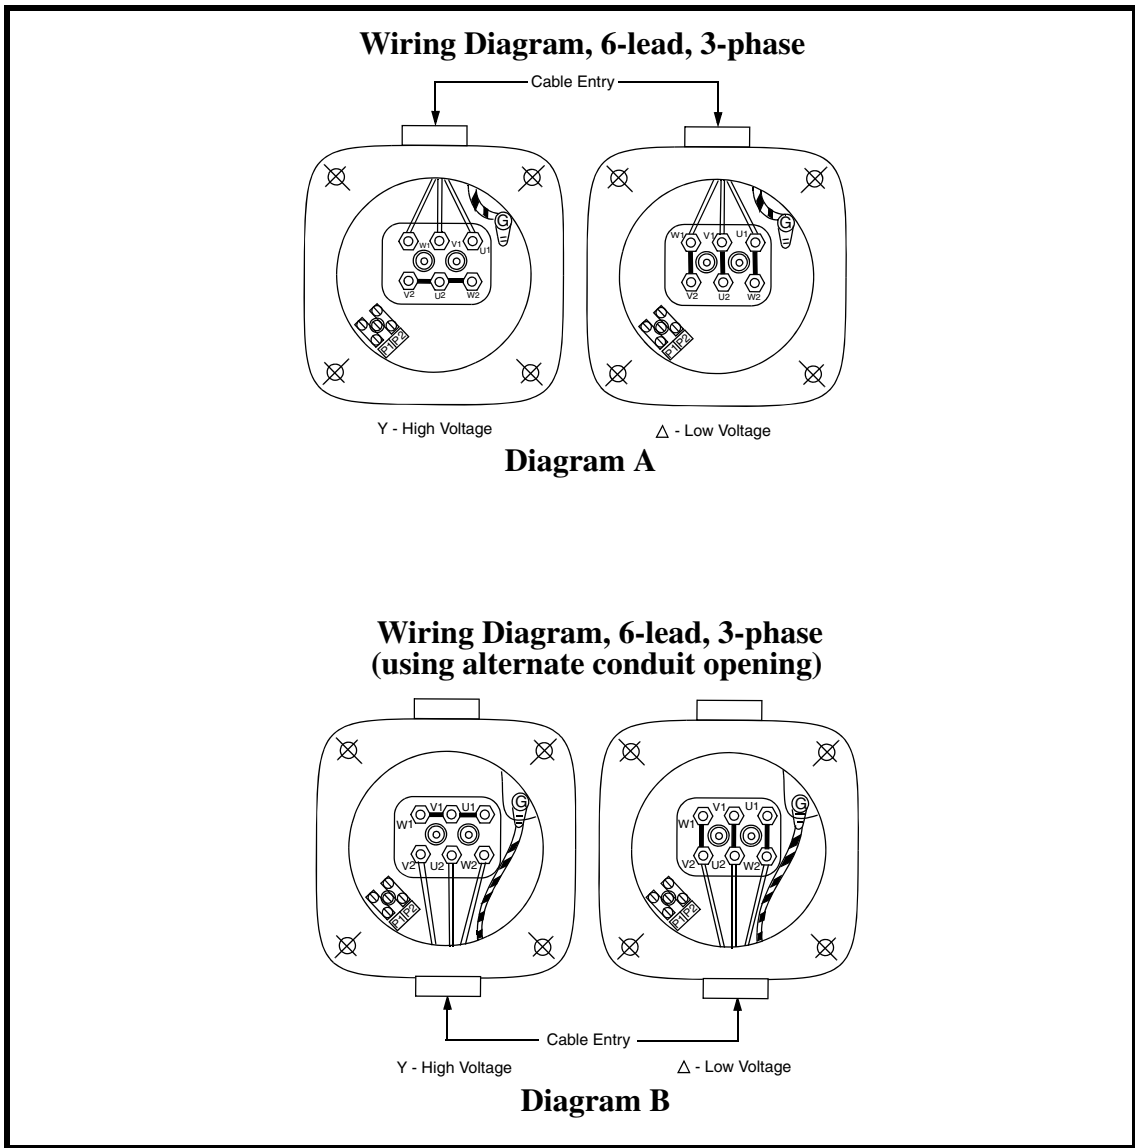

Figure 3. Wiring Diagrams
An alternate conduit opening is provided at the bottom of the wiring box. To use alternate conduit opening, remove plug and tightly install it into top of wiring box. If using bottom conduit opening, wire power supply according to Diagram B, Figure 3.
Wire vibrators according to wiring Diagrams A or B in Figure 3.
2. Trim conductors and strip insulation approximately 1/4 inch. Wire vibrator according to wiring diagram inside terminal box or see Figure 3. Use closed-loop wire connectors only.